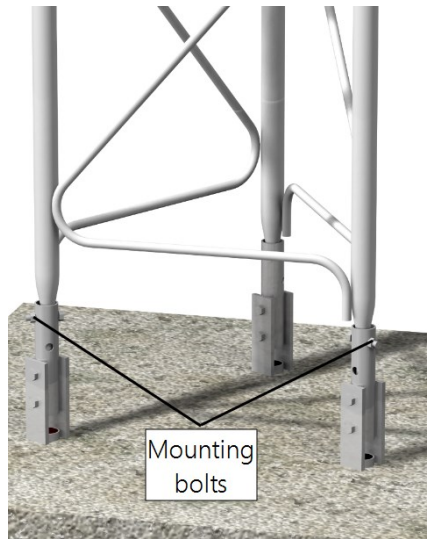

FIGURE 7-26. Tower attached to the B18 legs
3. Attach the bottom section of the tower to the B18 base using one bolt per leg (FIGURE 7-26 (p. 32)), making sure that the hinge direction is common for all legs.